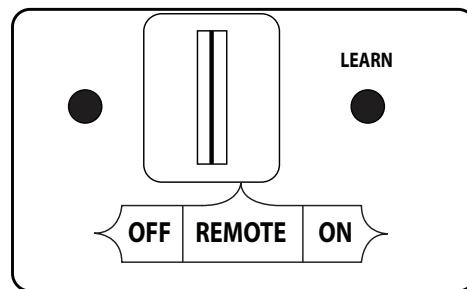

Fig. 39-2 Remote receiver (OFF for Manual Light)
- Ensure the pilot is burning. If equipped, locate the 3-position switch on the remote receiver (see Fig. 39-2), and slide the switch to the **OFF** position.